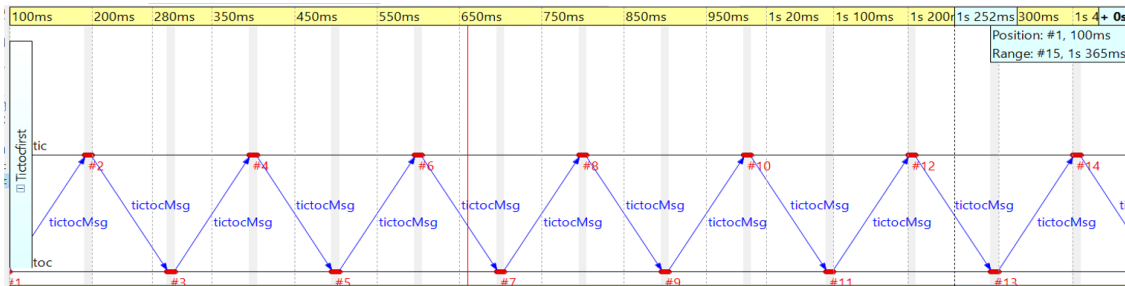

Figure 3.4: Message exchanges
- Observing message exchanges: Run the simulation again. Use the *Record* button in the Qtenv graphical runtime environment after launching, to record the message exchanges during the simulation into an *event log file*. After you exit the simulation, the log file can be analyzed later with the *Sequence Chart* tool in the IDE. The results directory in the project folder contains the *.elog* file. Double-clicking on it in the OMNeT++ IDE opens the Sequence Chart tool, and the event log tab at the bottom of the window. You will see a chart similar to Figure 3.4. You can also open separate output windows for *tic* and *toc* by right-clicking on their icons and choosing *Component log* from the menu.